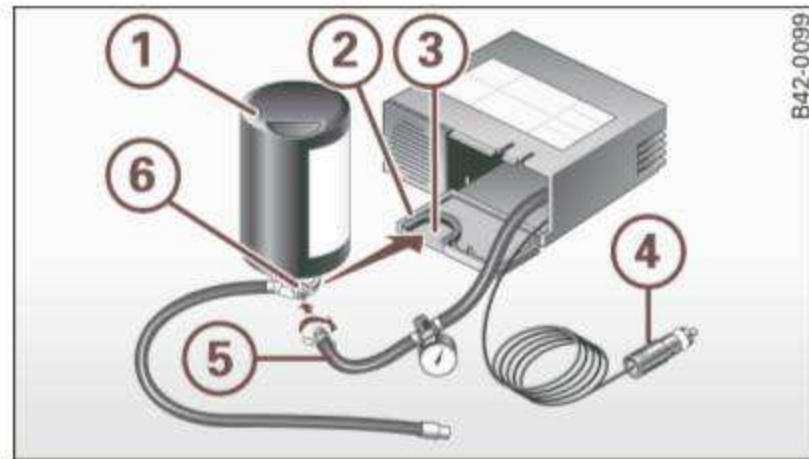
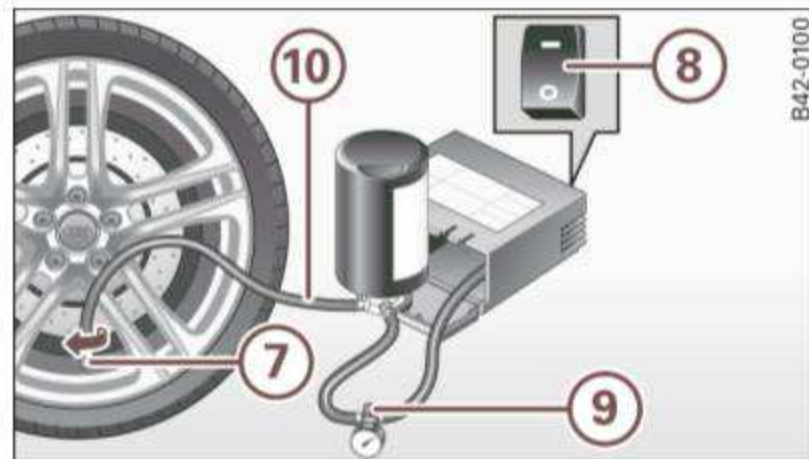

Fig. 130 Parts of the Tire Mobility System
Fig. 131 Connector for the Tire Mobility System
- Open the lid (2) of the electric air pump ⇒ page 239, fig. 130.
- Pull the plug (4) and the pressure hose (5) with the gauge out of the housing.
- Screw the pressure hose (5) of the electric air pump onto the flange (6) of the sealant bottle (1).
- Push the sealant bottle with the flange down into the recess (3) on the lid of the electric air pump.
- Screw the hose (10) onto the valve (7) ⇒ fig. 131.
- Insert the plug (4) ⇒ page 239, fig. 130 into the socket for the cigarette lighter.
- Move the switch (8) ⇒ fig. 131 on the electric air pump⁵⁾ to position I. After 5 minutes, tire pressure must have reached at least 1.8 bar.
- Remove the empty inflation bottle and screw the hose (5) (5) ⇒ page 239, fig. 130 from the electric pump directly onto the valve.
- Insert the plug (4) into the socket for the cigarette lighter.